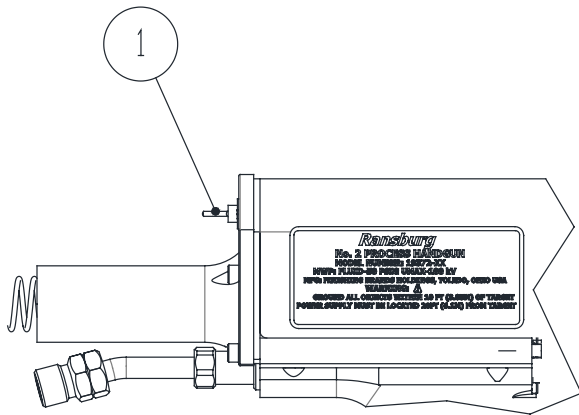

Figure 11: "ON - OFF" Switch Location
3. Insure the "ON-OFF" switch is in the off position. (See figure 11)
ON - OFF SWITCH LOCATION (Figure 11)
1. Turn the gun motor to the "OFF" position by moving the "ON - OFF" to "OFF" position (Ref. Figure 11). Release the paint pressure at the pressure regulator and mount the gun on its stand.